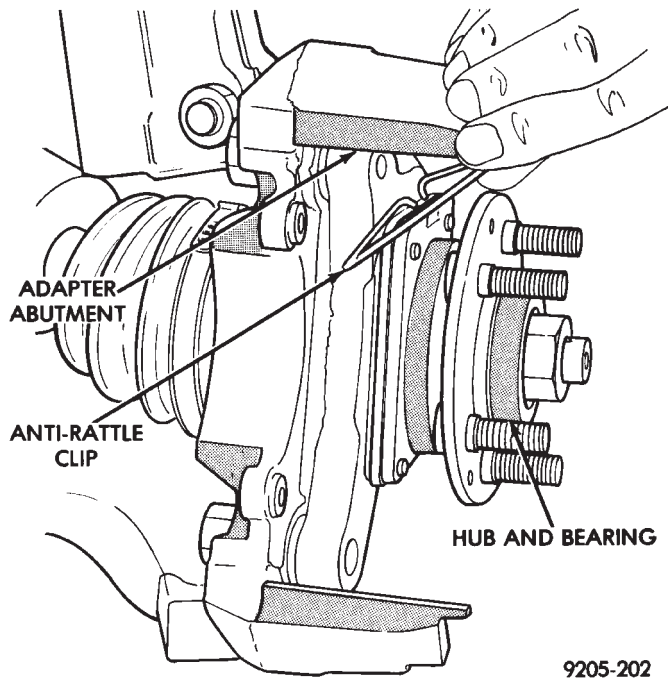

Fig. 8 Remove Or Replace Anti-Rattle Clip
- (10) Remove the anti-rattle clip from the top adapter abutment (Fig. 8).
(1) Lubricate both adapter abutments with a liberal amount of Mopar® Multipurpose Lubricant, or equivalent.
(2) Install the anti-rattle clip on the upper abutment of the caliper mounting adapter (Fig. 8).
(3) Remove the protective paper from the noise suppression gasket on both the inner and outer brake shoe assemblies (if equipped).